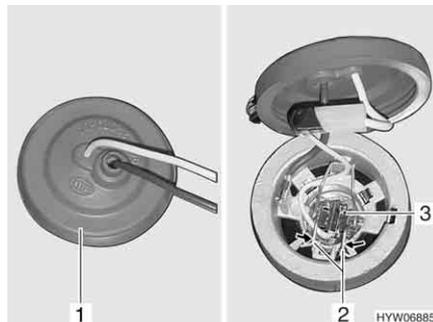

Fig. 287 Fog light
- Put your hand behind the fog light and remove rubber cap (Fig. 287,1) from lamp housing.
- Press metal clip (Fig. 287,2) together and release from holder.
- Remove bulb (Fig. 287,3) with cable from lamp housing.